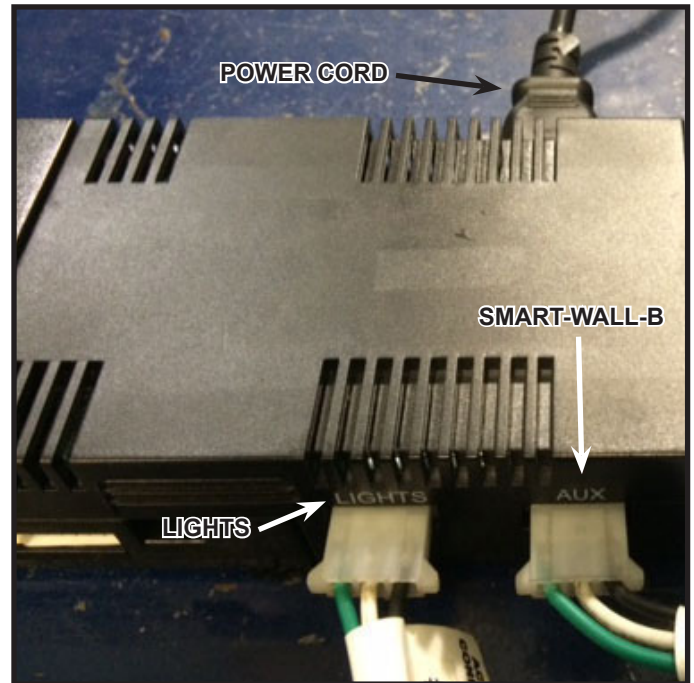

Figure 9. Fan, Lights and SMART-WALL-B Connection
- To connect a light kit to the IFT-ACM, remove protective rubber cap labeled 'LIGHTS' and connect the female cord that was supplied in your lights kit into the three male pins on the IFT-ACM. See Figure 9.
- To connect a SMART-WALL-B kit to the IFT-ACM, remove protective rubber cap labeled 'AUX' and connect the female end connector of the SMART-WALL-B control module leads to the three male pins on the IFT-ACM. See Figure 9.